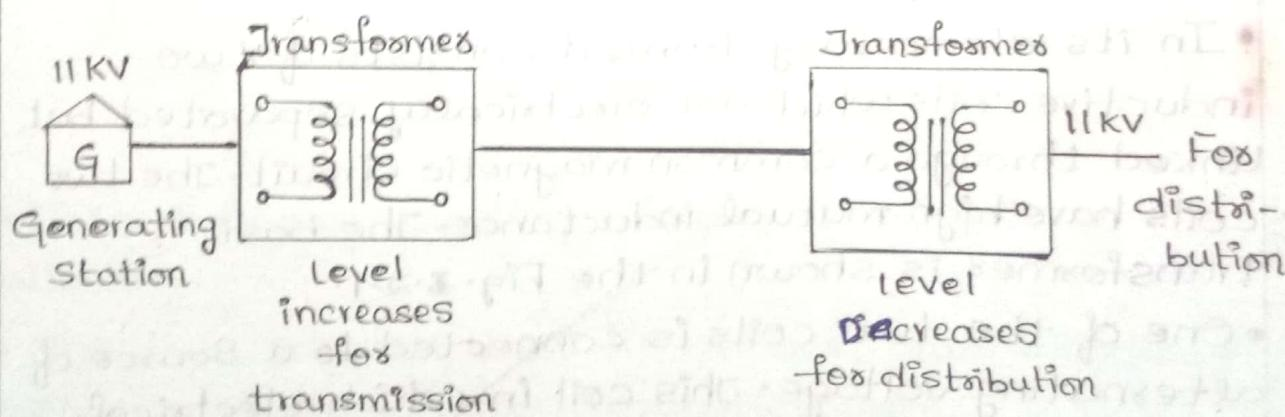

Fig. 3.1.1 Use of transformers in transmission system
- The use of transformer in a.c transmission system is shown in the Fig. 3.1.1,